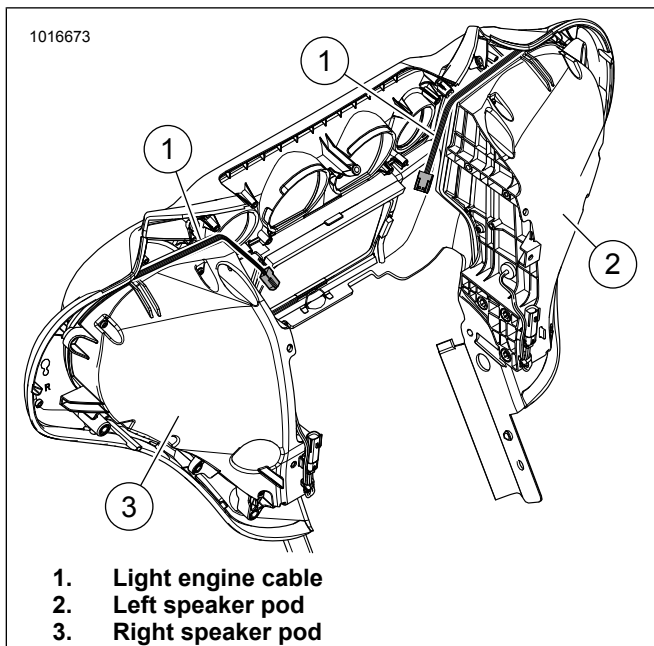

Figure 5. FLH Fairing
8. See Figure 5. Route light engine cable (1) as shown. Secure cable with cable strap.